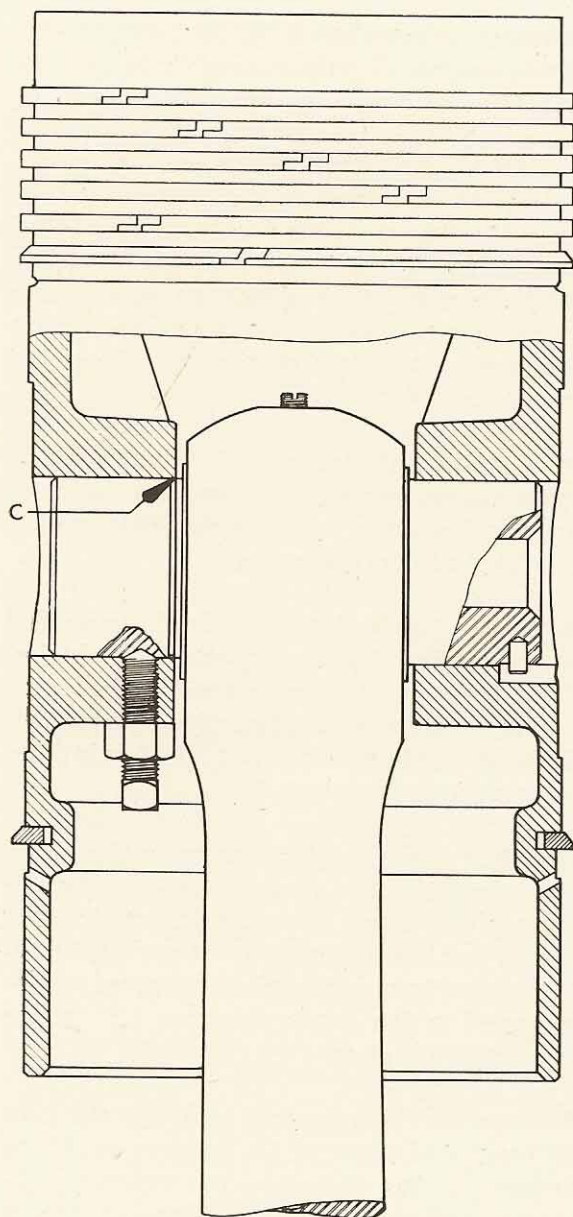

FIGURE 13-12
9. SERVICE NOTE: If there has been trouble in obtaining the proper end clearance on the crankpin bearing or if the lead wires from each end of the bearing halves have been showing different thicknesses, the alignment of the assembly should be checked as follows: Refer to "C" Figure 13-12.